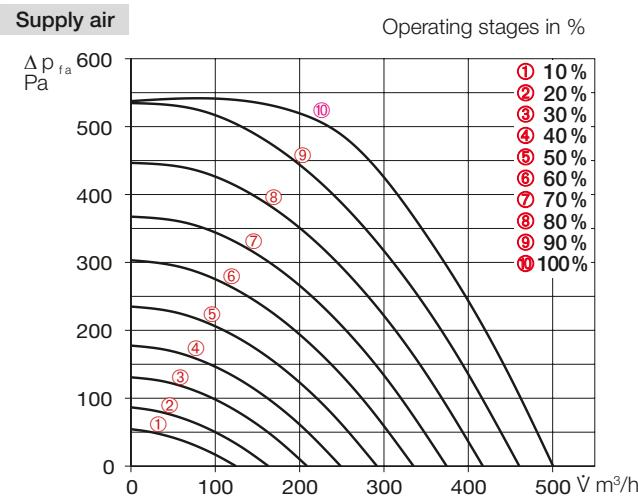
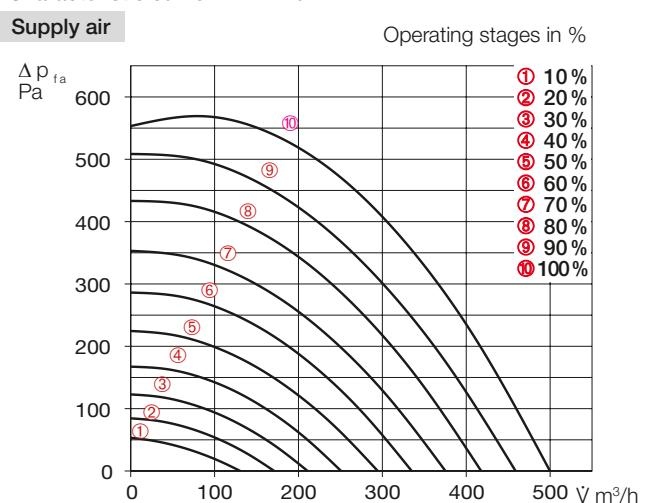

Fig. 23
Fig. 25
4. Enter the determined differential pressures from the supply and intake air measurement in the unit characteristic curve for supply air (see Fig. 23 and Fig. 25) according to the fan outputs saved in the ventilation profile (cf. Fig. 28 and Fig. 29).